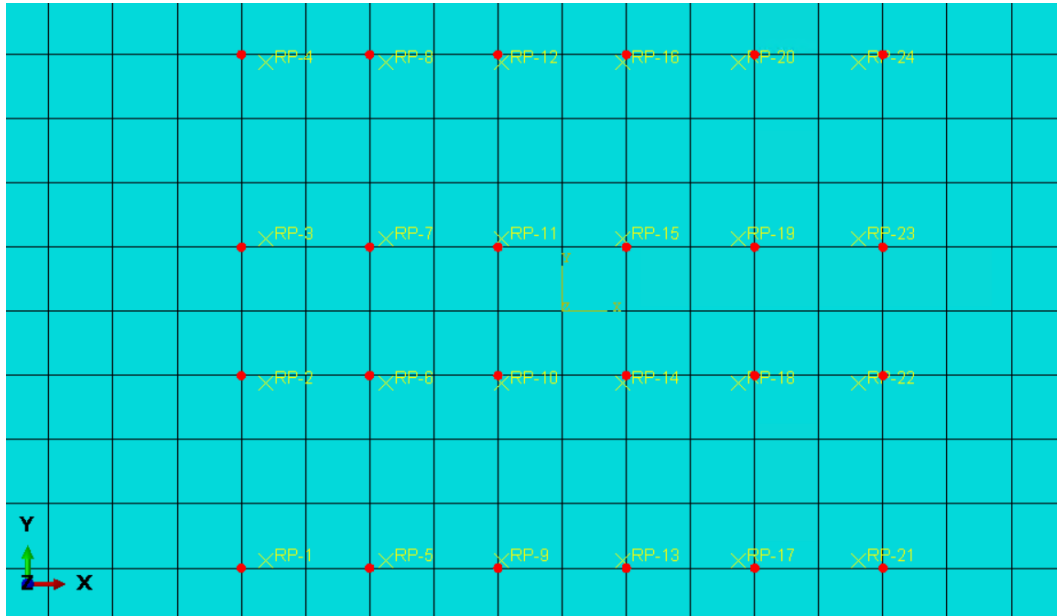

Figure 2-3 – Nodes to be selected (marked in red) closest to the reference points representing the position of the point loads.
- Choose all the nodes closest to the reference points and name the set **PointLoads**. See Figure 2-3.